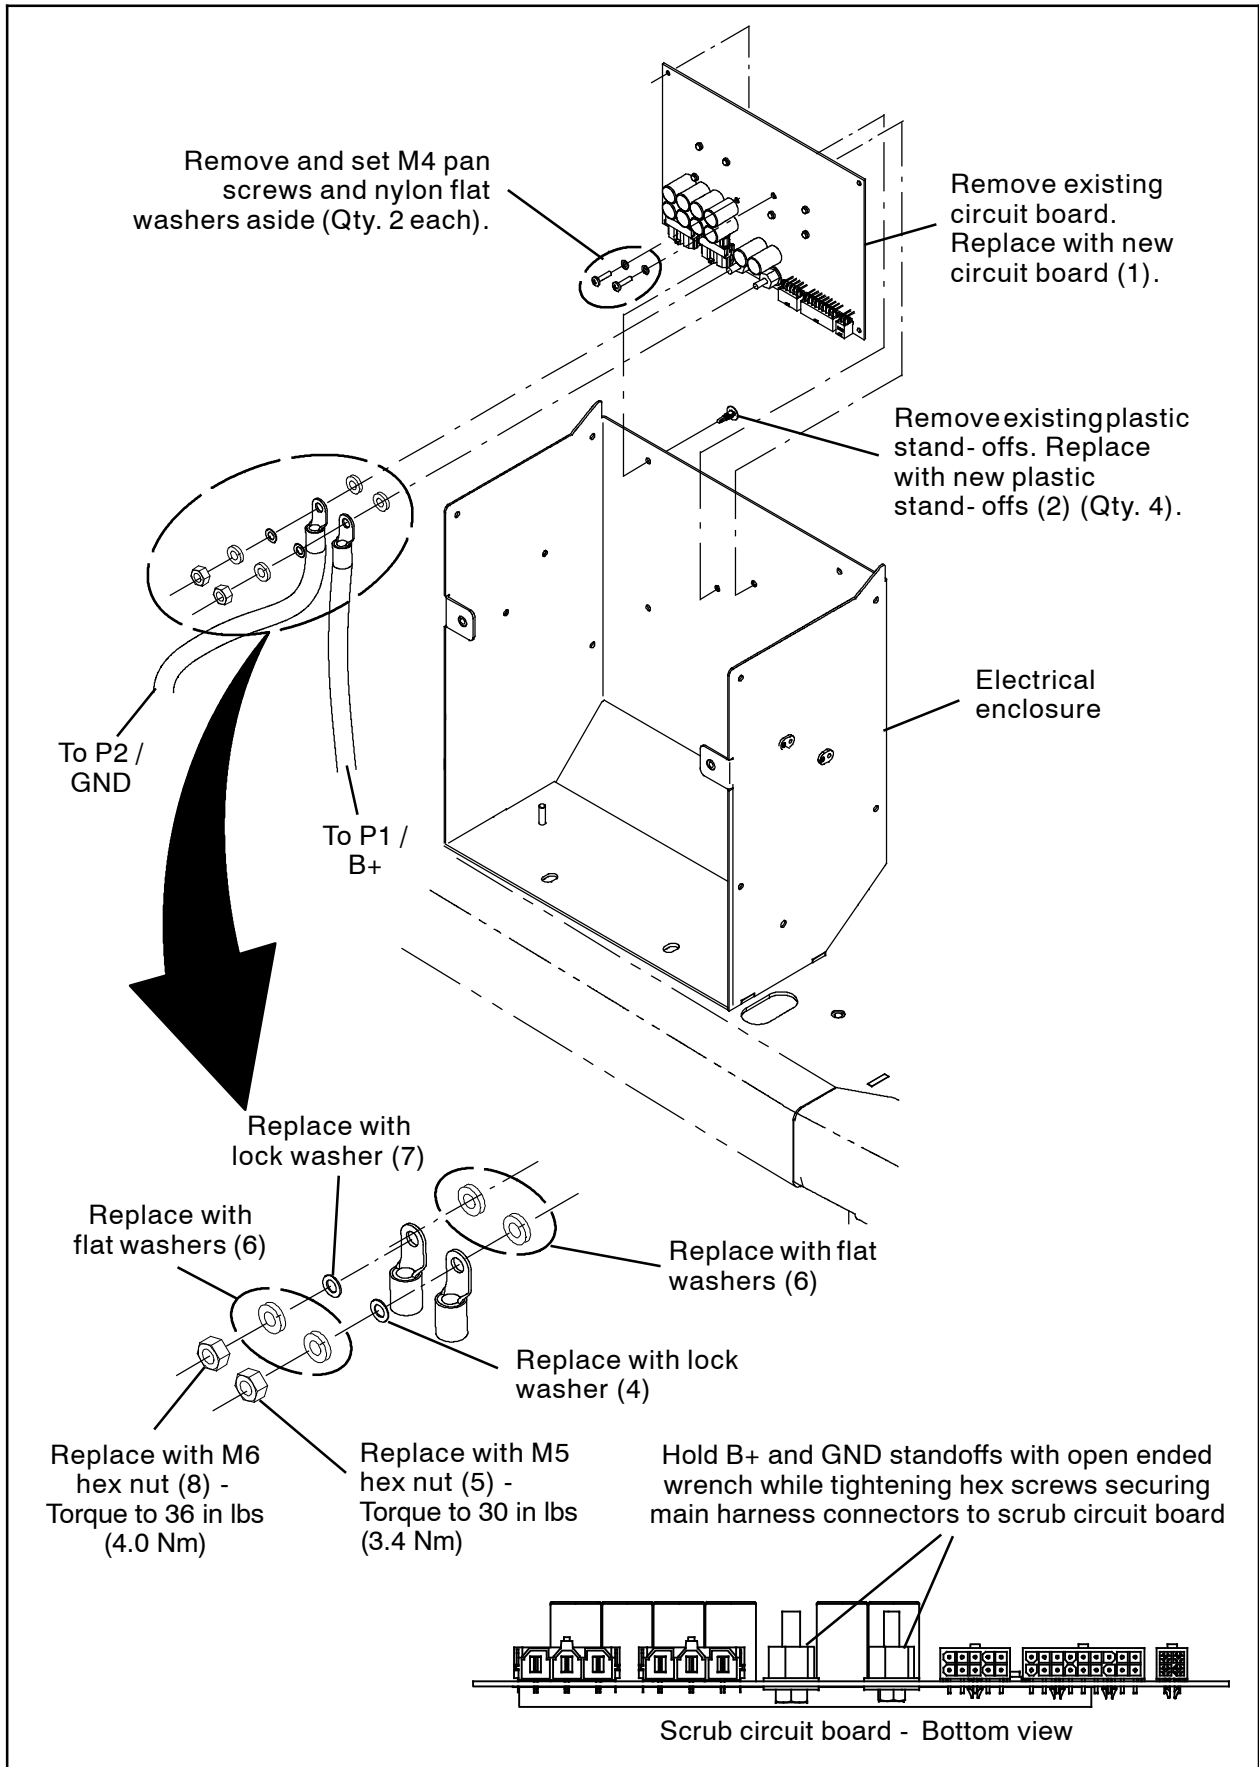

FIG. 3
3. Disconnect all main wire harness connectors from the existing scrub circuit board. Discard all P2 / GND and P1 / B+ mounting hardware. (Fig. 3)
4. Remove both M4 pan screws and nylon washers securing the scrub circuit board to the electrical enclosure. Set the M4 pan screws and nylon washers aside. (Fig. 3)
5. Remove the scrub circuit board from the four plastic stand-offs in the electrical enclosure. Discard the scrub circuit board. (Fig. 3)
6. Remove the four plastic stand-offs from the electrical enclosure. Discard the plastic stand-offs. (Fig. 3)
7. Install four new plastic stand-offs (3) where the four removed plastic stand-offs were previously located. (Fig. 3)
8. Ensure the B+ and ground standoffs are tight on the new scrub circuit board (1). (Fig. 3)
9. Place the scrub circuit board (1) onto the plastic stand-offs (3) and use the two M4 pan screws and nylon washers to secure the scrub circuit board to the electrical enclosure. (Fig. 3).
10. Reconnect the main wire harness connectors to the scrub circuit board (1). (Fig. 3)
11. Use an M6 hex nut (8), two flat washers (6) and a lock washer (7) to connect the P2 / GND cable to the scrub circuit board (1). Hold the circuit board stand-off with an open ended wrench while tightening the M6 hex nut. Torque the M6 hex nut to 36 in lbs (4.0 Nm). **Do Not** over tighten hardware. (Fig. 3)
12. Use an M5 hex nut (5), two flat washers (6) and a lock washer (4) to connect the P1 / B+ cable to the scrub circuit board (1). Hold the circuit board stand-off with an open ended wrench while tightening the M6 hex nut. Torque the M5 hex nut to 30 in lbs (3.4 Nm). **Do Not** over tighten hardware. (Fig. 3)